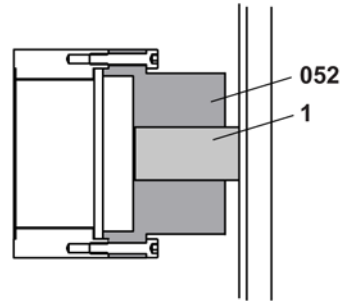

Fig. 15
4. The shaft end of the motor **1** must be flush with the front surface of the coupling hub see Fig. 15.